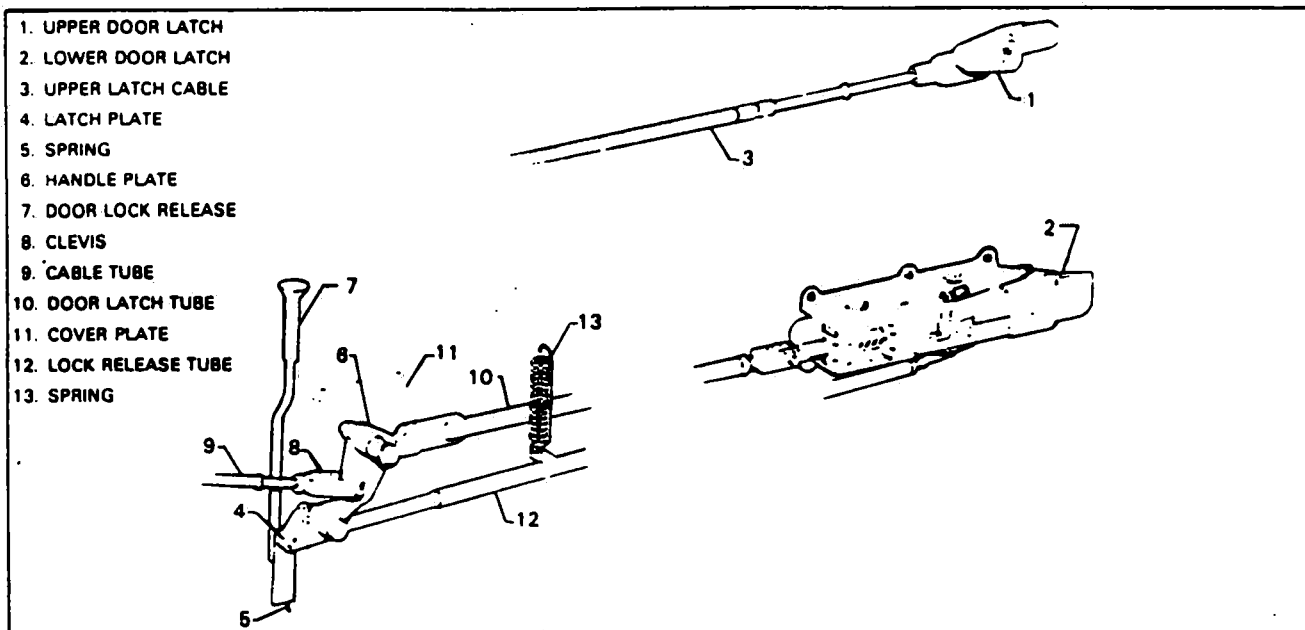

Figure 4-8. Door Locking Mechanism
**4-42. REMOVAL OF DOOR LATCH ASSEMBLY. (Refer to Figure 4-8.)**
**4-43. INSTALLATION AND ADJUSTMENT OF DOOR LOCKING MECHANISM. (Refer to Figure 4-8.)**
- a. Install the upper (1) and lower (2) latch assemblies with machine screws.
- b. Install latch cable assembly (3) and connect the clevis rod end to the upper latch. Leave approximately three threads of the cable end exposed from the clevis, then tighten the locknut.
- c. Lubricate and install latch plate (4), door lock release (7) and latch spring (5).
- d. Lubricate and install the door handle shaft-plate assembly (6). With the latch plate in locked position, draw the door handle up and to the rear allowing the pawl of the handle plate assembly (6) to catch the latch plate (4).
- e. Align the latch cable clevis end (8) holes with the lower hole of the handle-plate assembly (6). Ascertain that the clevis pin will slip freely through these holes. Remove the pin and take in one turn if adjustment is with a cable that has been previously installed. Take in two turns if adjustment is with a new cable. Install the pin and safety. Check that tube (9) will rotate freely.
- f. Install door latch tube assembly (10) and pin, safety at the handle-plate assembly. Install cover (11) and secure.
- h. Install door lock release tube (12) and spring (13). Adjust to allow the forward portion of the outside handle to move out finger width when the rearward portion is depressed.
- i. Check the operation of the latch handle and ascertain that the upper and lower latches (1 and 2) are fully extended when the door handle is in a locked position (full forward). The upper latch (1) is retracted when the lower latch is in closed position (neutral handle position, no force applied) and both latches are retracted when the handle is in open position (full rear).
- j. Ascertain that the flat portion of the door lock release tube (12) is 90 degrees to the flat of the latch plate (4).